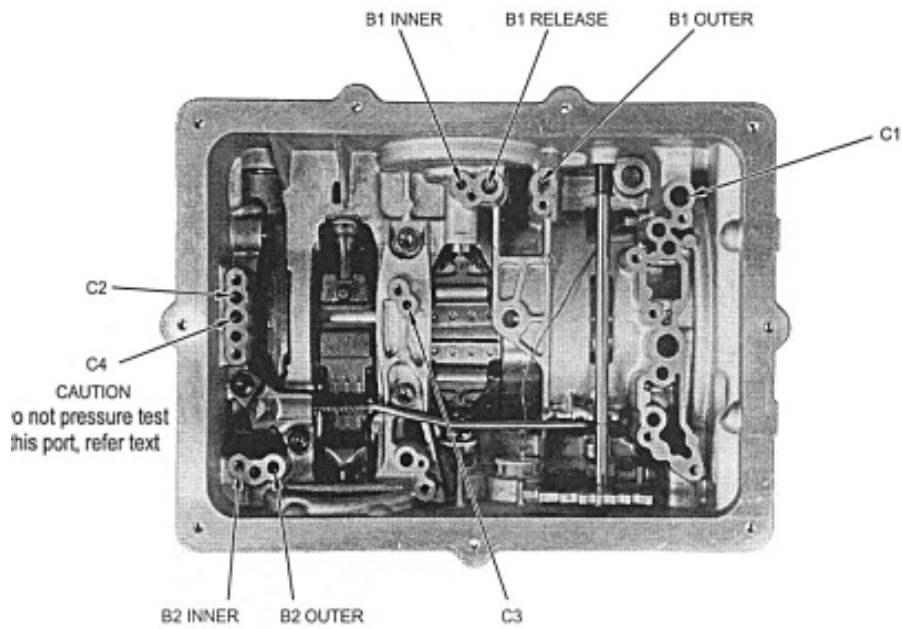

Figure 8.63 External port position of B1 and B2
- ① Allow the air pressure is in 650/700kPa in the operating area of front servo mechanism (external of B1), (refer to Figure 8.63).
- ② The forward dimension of thrust lever minus 3mm.
- ① A allows the air pressure of 650/700kPa is in the front servo mechanism operating area (external of B2), (refer to Figure 8.63).
- ② Deduct 3.75mm from the movement of piston and use the 2.5 mm shim to divide the rest distance.